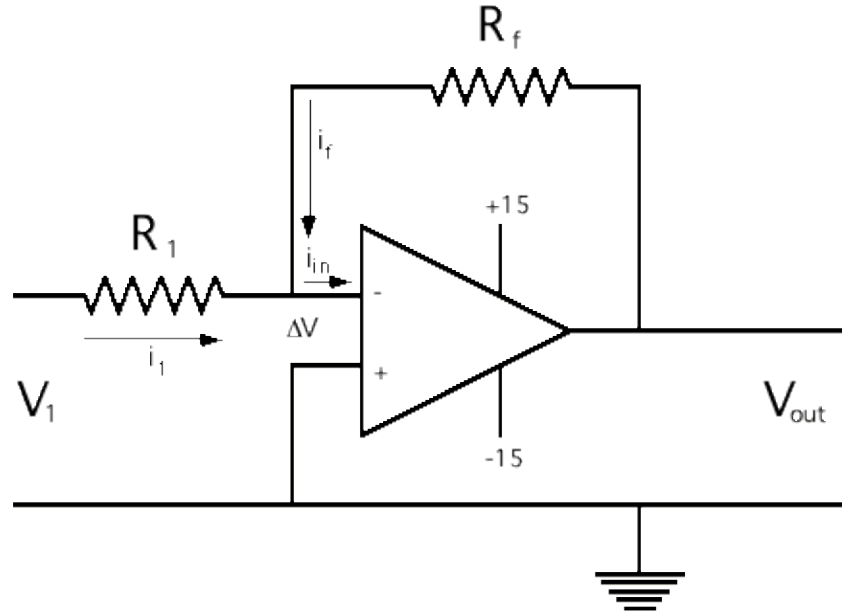
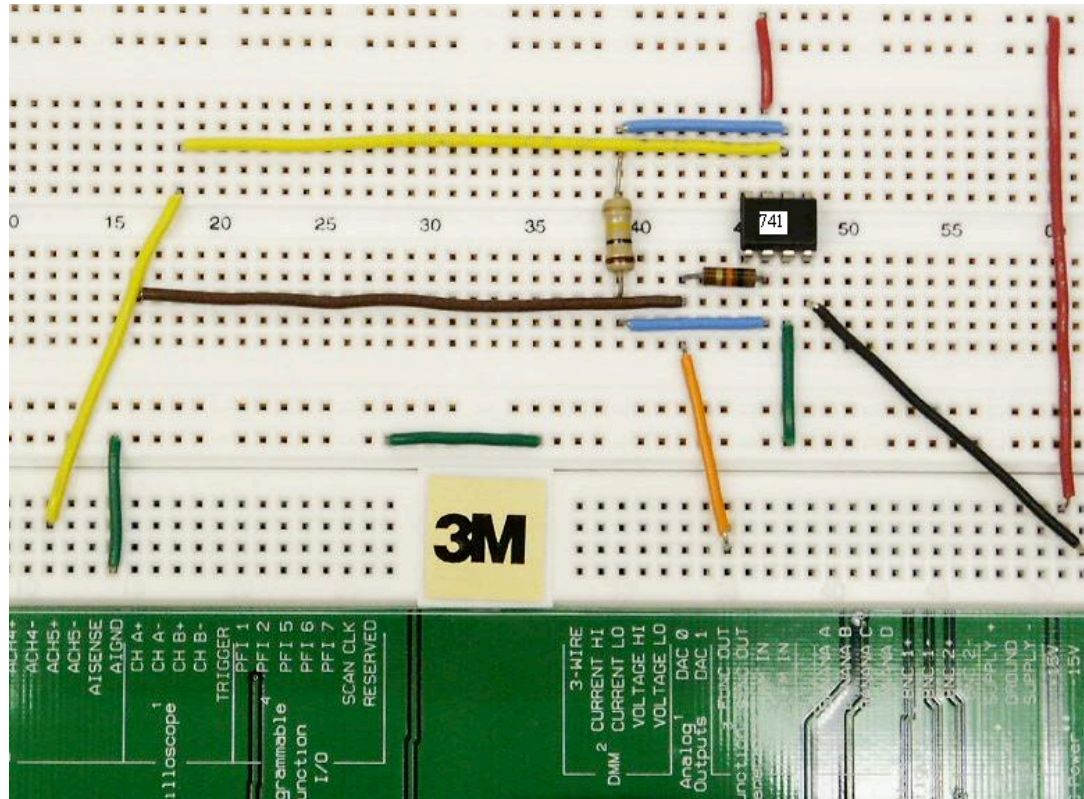

Figure 2. Schematic Diagram for an Inverting Op-Amp Circuit
Figure 4. Component Layout for an Inverting Op-Amp Circuit
- On your NI ELVIS Prototyping build the inverting amplifier circuit shown in Figure 2 (shown pictorially in Figure 4).